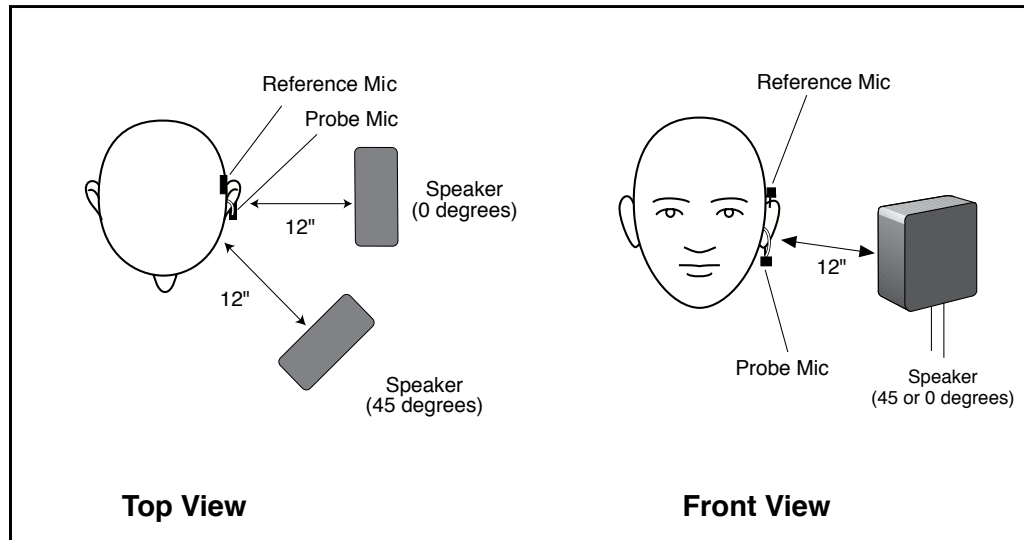

Figure 7.3.1A—Sound field speaker placement
2. Situate your client with the sound field speaker at a 45° or 0° angle azimuth. See Figure 7.3.1A. We recommend a testing distance of 12 inches from the sound field speaker. You can test at longer distances but it will limit the maximum output possible.